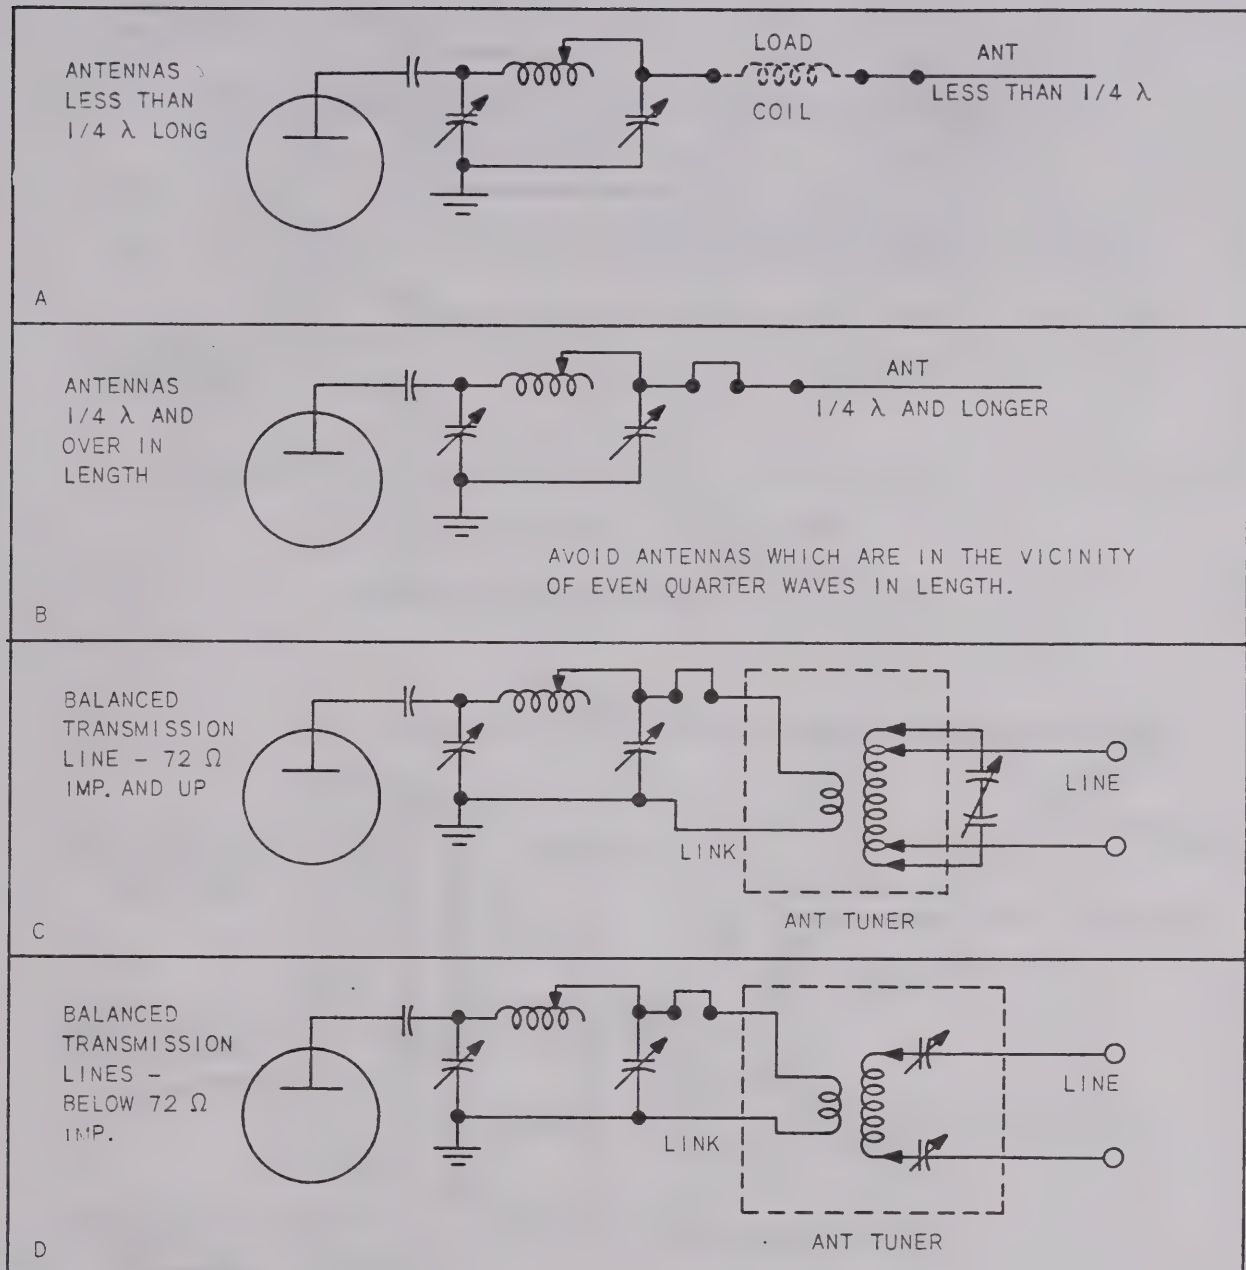

Figure 2-5. Applicable Antenna Circuits
(2) MICROPHONE - The push-to-talk and microphone connections are made by means of Amphenol type MC 4M four-connector plug. The microphone receptacle is located at the rear of the modulator chassis and the microphone cable may enter the side of the cabinet, a 7/8" hole is provided. The ring on the microphone plug should be securely tightened. For LOCAL push-to-talk operation, remove the jumper from terminals 5 and 6 on unit C (speech amp and modulator), and place TEST KEY in the "locked" position.
(3) RADIATION SYSTEM - The output networks will match an extremely wide range of antenna impedances with excellent efficiency. At lower frequencies, and for antenna less than a quarter wave in length, provision is made for load coils which will assist in matching the antenna impedance. Unbalanced antenna and single wire or concentric transmission lines can be matched directly. See figure 2-5 for suggested antennas and circuits. Refer to paragraph ag. of table 1-4 for a description of the usable output impedances.